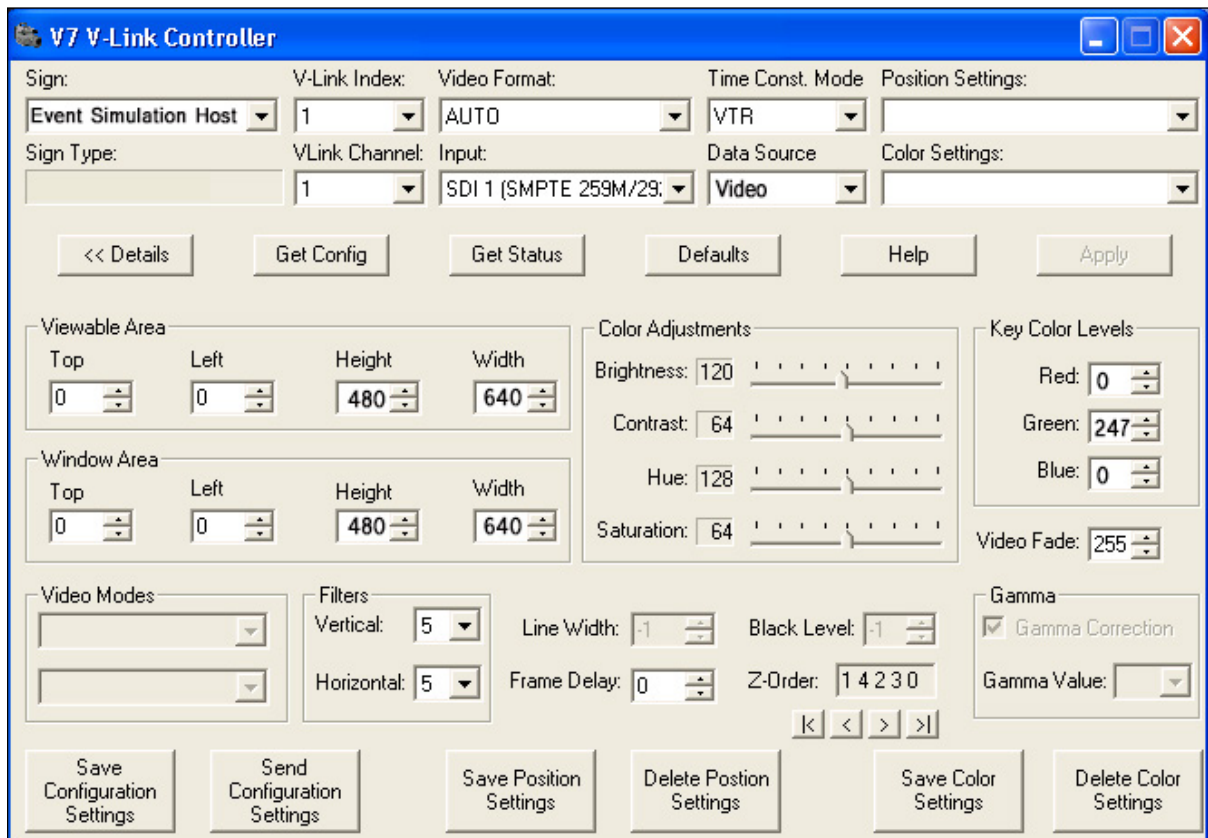

Figure 10: V7 V-Link Controller Dialog Box
9. Click **Details** or press **Alt-D**. The **V7 V-Link Controller** dialog box expands as shown in **Figure 10**.
10. Change the **Top** and **Left** quantities in the **Viewable Area** section to determine what portion of the video feed will display. The default setting is the largest area of good video feed available for display. This feed is centered and may be adjusted as desired. Refer to **Figure 10**.